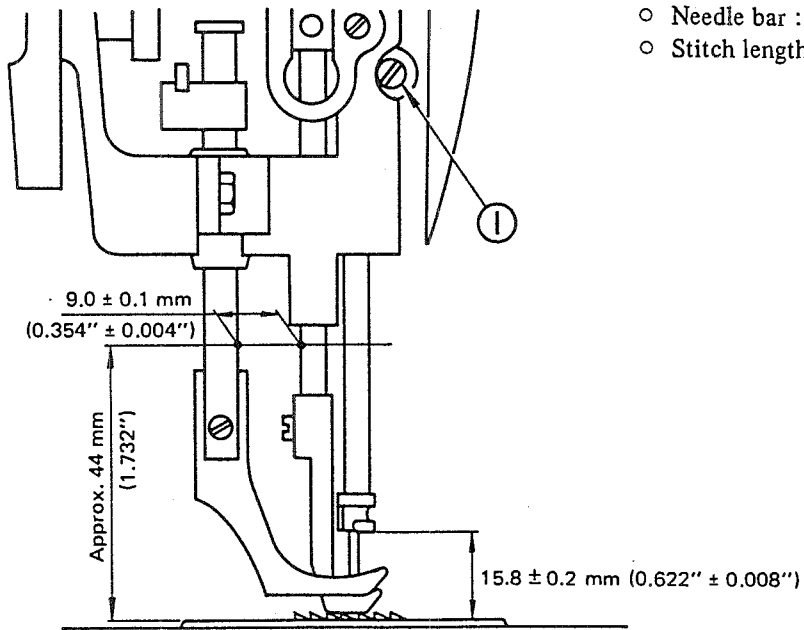

Fig. 1
<ol data-bbox="240 1003 948 1128" style="list-style-type: none"> 5. Loosen screw ① of Fig. 1. 6. Adjust the distance between the bottom end of the needle bar and the throat plate surface to 15.8 mm (0.622"). Tighten screw ①. <p data-bbox="240 1133 932 1189">(Note) After this adjustment, check the alignment of the needle with the center of the needle feed slot.</p>	<ul data-bbox="1050 1003 1410 1099" style="list-style-type: none"> ○ If the needle bar height is not correct, it may cause stitch skipping or thread breaking.